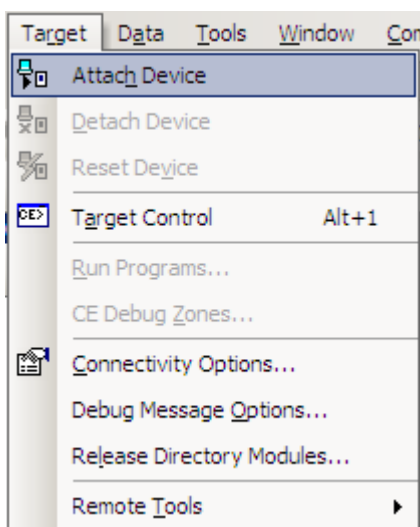

Figure 6-7 Attach Device to Download OS Image
1. Click **Target > Attach Device** (Figure 6-7).